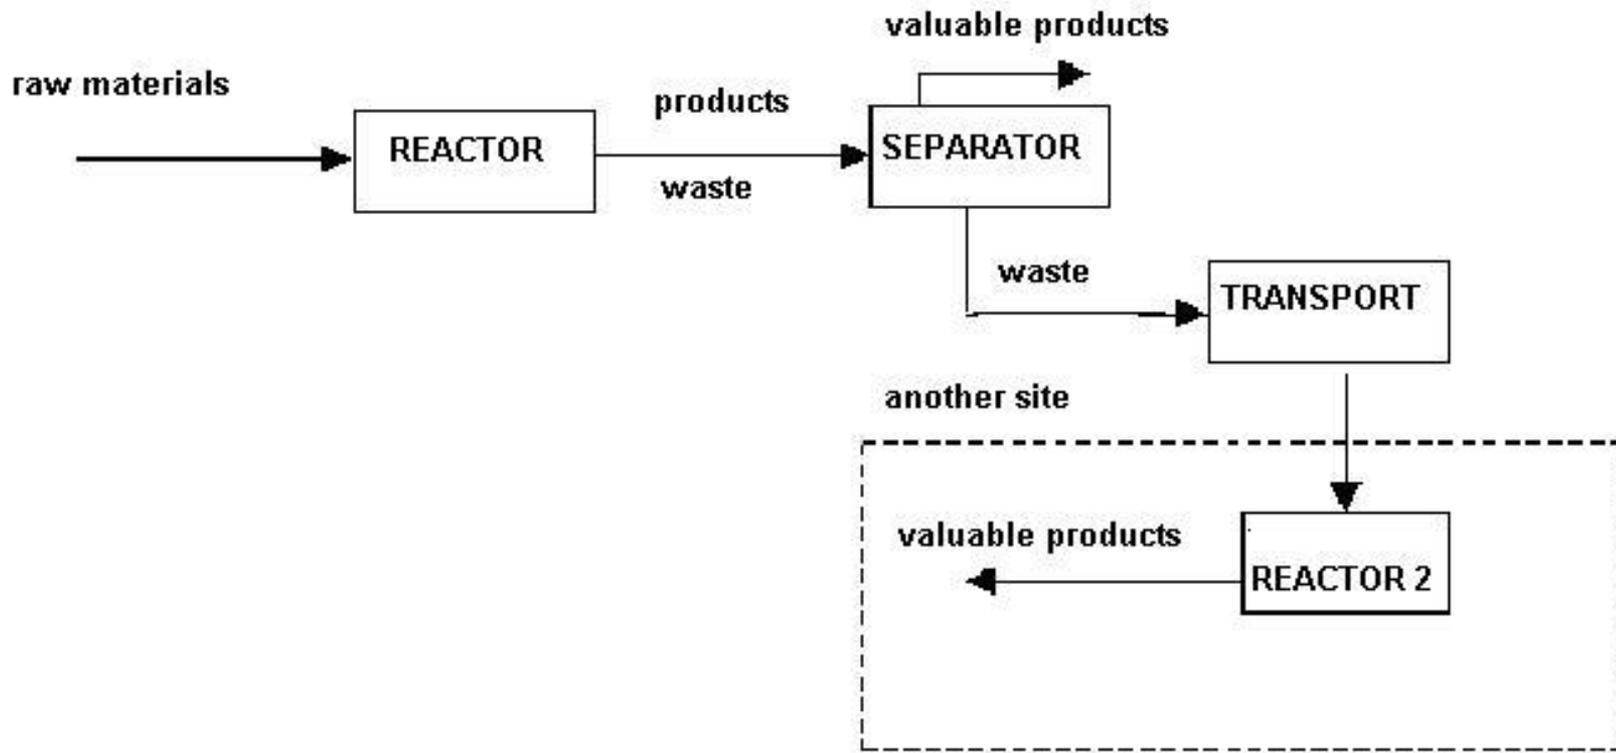

Fig. 5.6. Off-site recycling
• **off site recycling:** the output is sent to a separator, while the unprocessed raw materials are transported as raw materials to another process (Reactor 2) belonging to another industrial process, located to another site (Fig. 5.6):